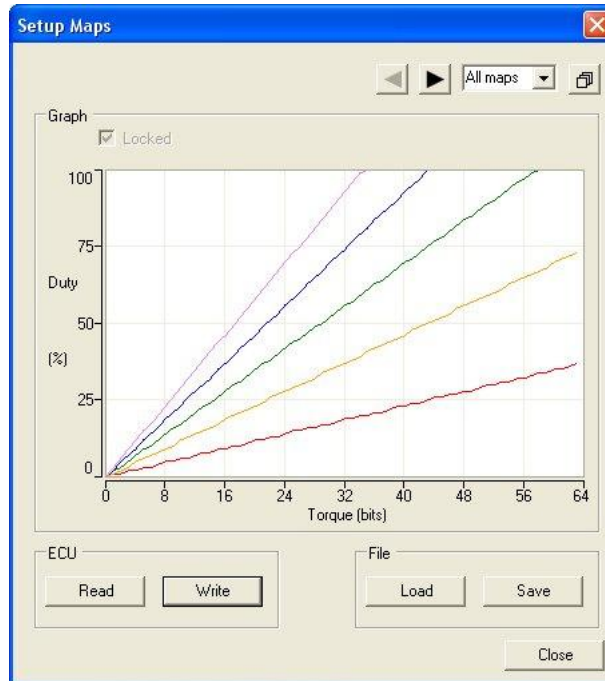

Figure 7 - Setup Maps Dialog (All Maps)
3. Once map data is available the Setup Maps dialog displays all five maps on the same set of axes (Figure 7).